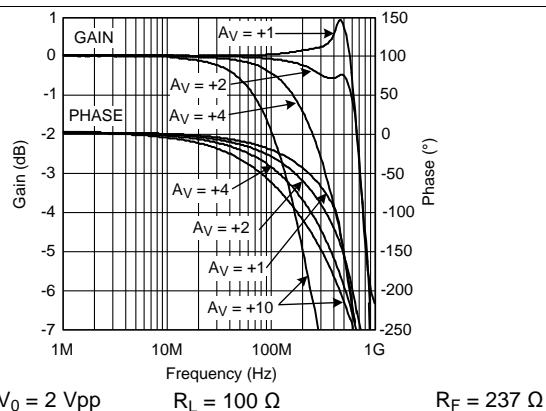

Figure 1. Non-Inverting Frequency Response
1. A bandwidth of 1.7 GHz and relative insensitivity of bandwidth to closed loop gain (characteristic of Current Feedback architecture when compared to the traditional voltage feedback architecture) as shown in Figure 1.